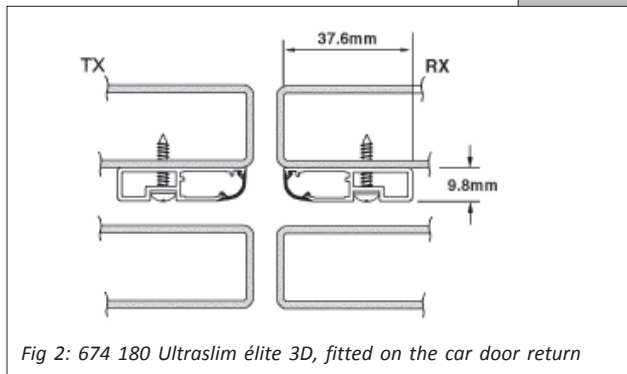

Fig 2: 674 180 Ultraslim elite 3D, fitted on the car door return
The 674 safety system consists of a transmitter detector (TX) and a receiver detector (RX) mounted on the car doors. Each detector is housed in a robust profile only 9.8mm wide (Fig 2). The 674 will automatically sense the door separation and adjust itself for optimum performance.